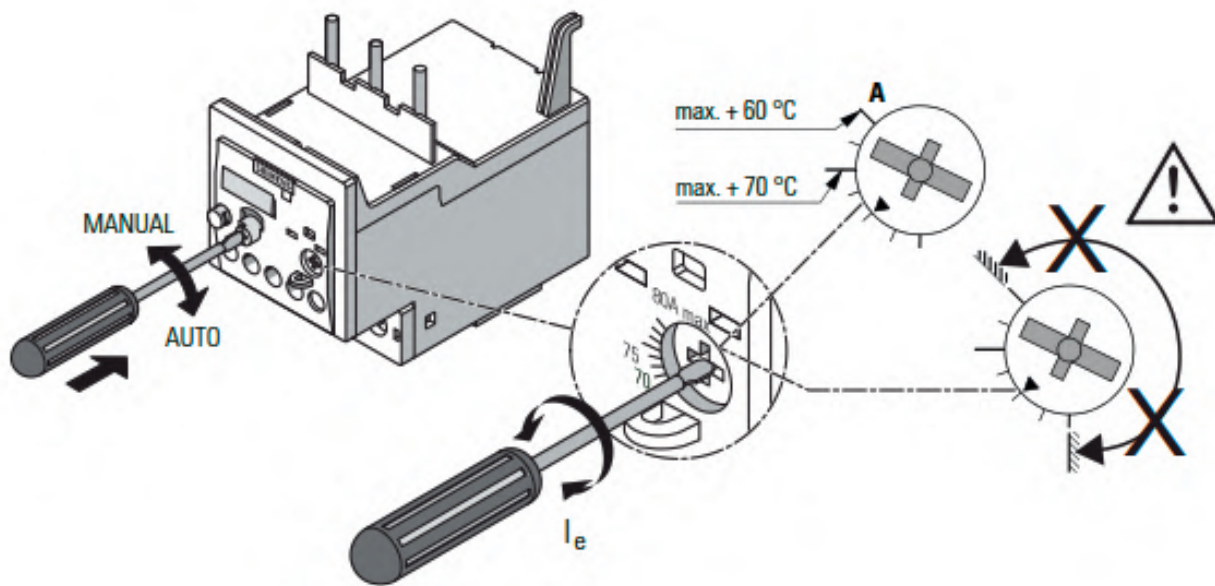
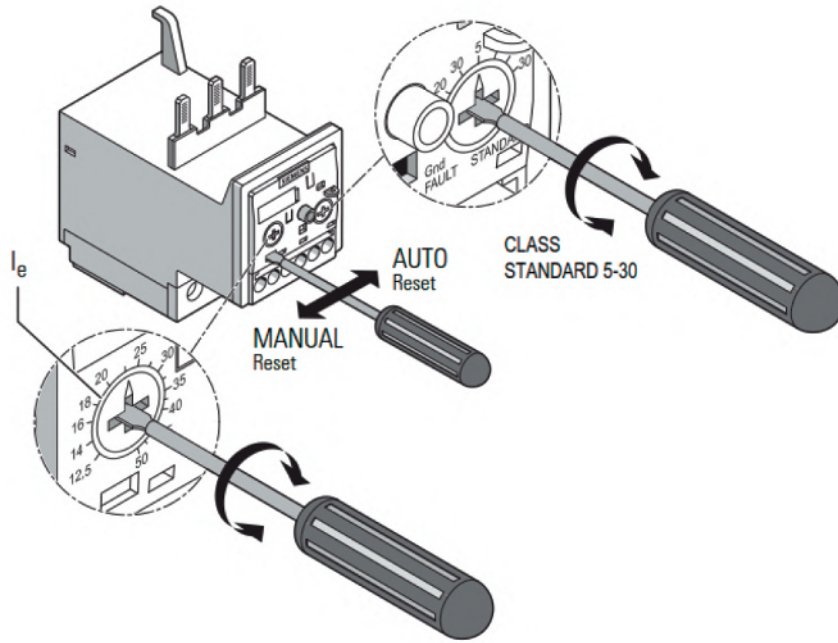

Figure 3a
Figure 3b
8. For thermal OLRs, set the MANUAL / AUTO switch and FLA dial as shown in Figure 3a. For solid-state OLRs, set the Trip Class dial, MANUAL / AUTO switch and FLA dial as shown in Figure 3b. For more information, refer to the OLR instruction sheet. The publication number may be found on the side of the device.